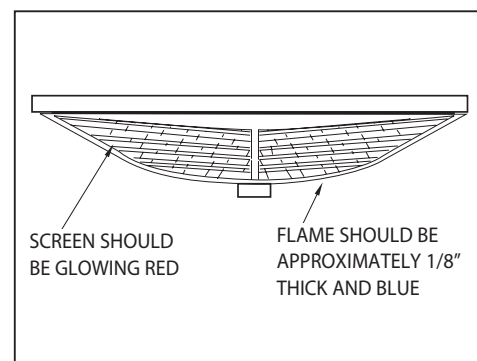

Fig. 07
- Broiler: The broiler flame should be approximately 1/8" thick and blue (Fig.07) . This is set at the factory for correct performance.